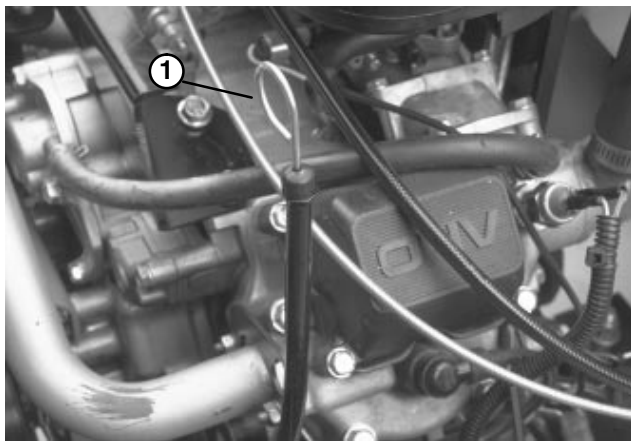

Figure 7
3. Remove dipstick and wipe it with a clean rag. Insert dipstick into the tube and make sure it is fully seated. Remove dipstick and check level of oil (Fig. 7). If oil level is low, remove oil fill cap (Fig. 8) and add enough oil to raise level to FULL mark on dipstick. Do not overfill.